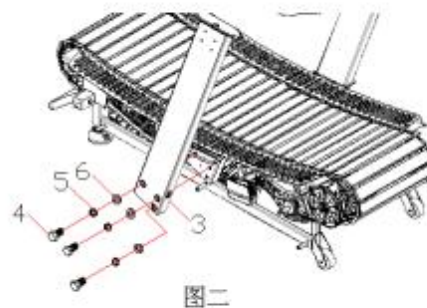
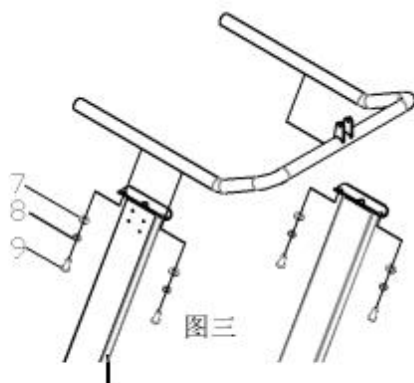

Figure 2
Figure 3
B、 First fix the left column with six angle cylinder head screw 4 (M12\*45), gasket 6 ( $\Phi$  12), spring mat 5 ( $\Phi$  12), then connect the left side data line of the column with the data line of the main frame. (Figure 2)
C、 First fix the right column with the inner six angle cylinder head screw 4 (M12\*45), the washer 6 ( $\Phi$  12), the spring mat 5 ( $\Phi$  12), and then connect the line C of the right side of the column bypass the disk (03) to the magneto resistance axis D. (figure 2, figure 3)